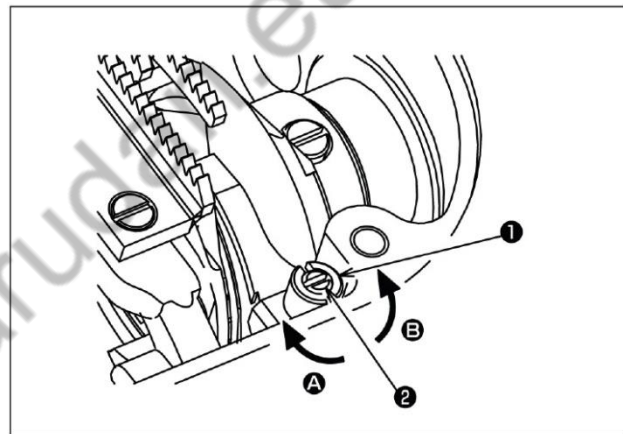

Fig.30
Loosen locknut (1) of knife pressure regulating screw (2). Turning screw (2) in direction of „A“ lowers the blade tip to increase the knife pressure. Then tighten the nut. As the thread thickness increases, the knife pressure should be increased. However, it is necessary to minimize the knife pressure as long as the thread is trimmed by turning the screw in direction of „B“. See fig.30.